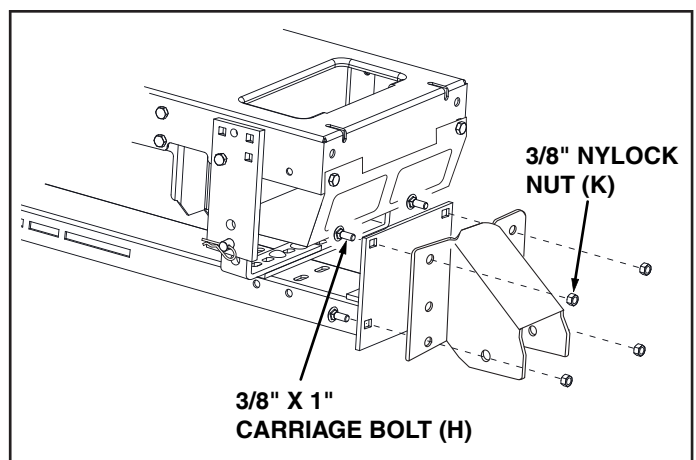

FIGURE 13 - SEARS TRACTOR SHOWN
STEP 13: (SEE FIGURE 13)
- Assemble the pivot support bracket to the front of the Thrust Channel using four 3/8" x 1" carriage bolts (H) and four 3/8" nylock nuts (K). Make sure the bracket is straight and then **tighten**.